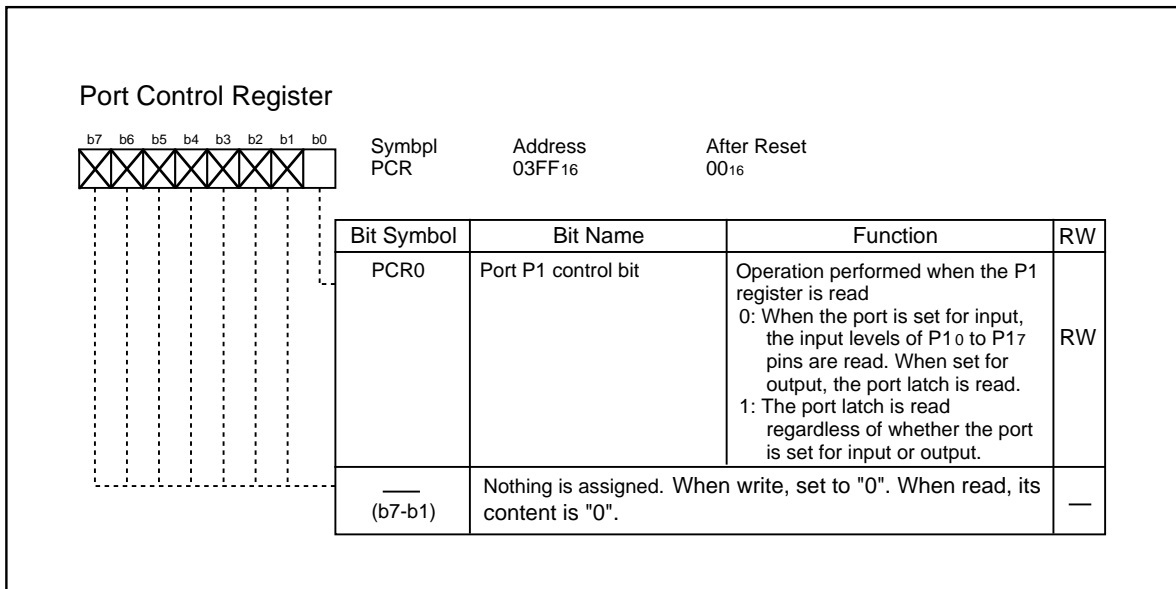

Figure 17.9 PCR Register
**Figure 17.9** shows the port control register.